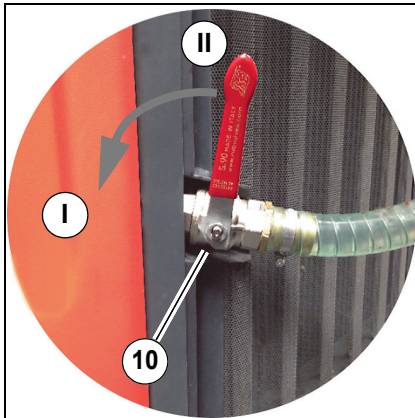

Fig. 125:
- Circulating water supply opened: Ball cock in position **Fig. 125-I**
- Circulating water supply closed: Ball cock in position **Fig. 125-II**